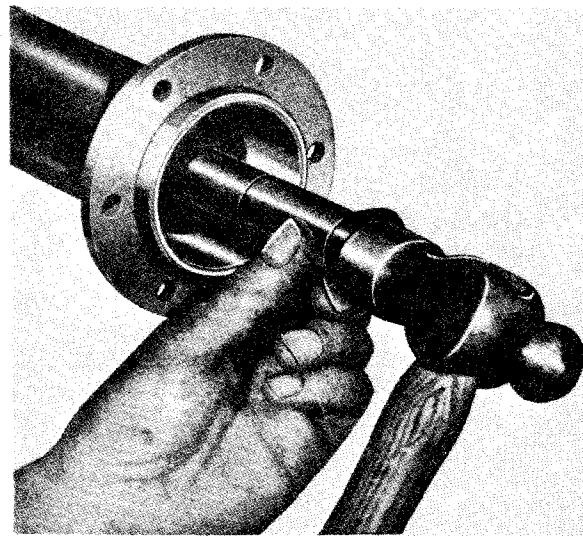

Fig. 8 Fitting oil seal into axle sleeve.
- (iv) Examine the inner oil seal and, if a replacement is necessary, proceed as shown in Fig. 8. Oil seal renewal is recommended in all cases of axle overhaul.